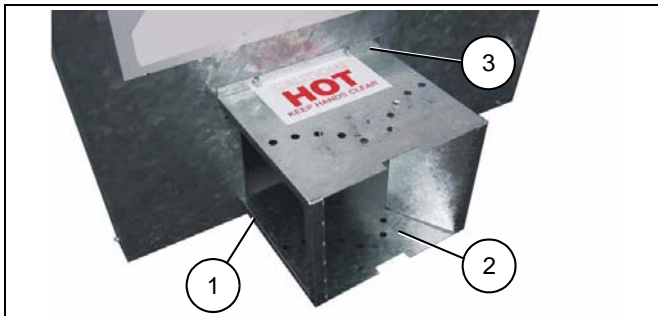

Figure 3A
The heater must be located a minimum of 12" (305 mm) from the ceiling, a minimum of 12" (305 mm) from the wall on the sides and back, a minimum of 20" (508 mm) from the ground, and positioned such that livestock and combustible materials are unable to come in contact with the heater or within 10' (3 m) of the hot air discharge. \(See Figure 3A on Page 14.\)
Fold Dual-Flare duct (1) to shape as shown in Figure 3A. Install Dual-Flare duct to heater exhaust as shown with sheet metal screws (3) provided. This provides a multi-directional heat flow (2) that may be set by bending flaps.